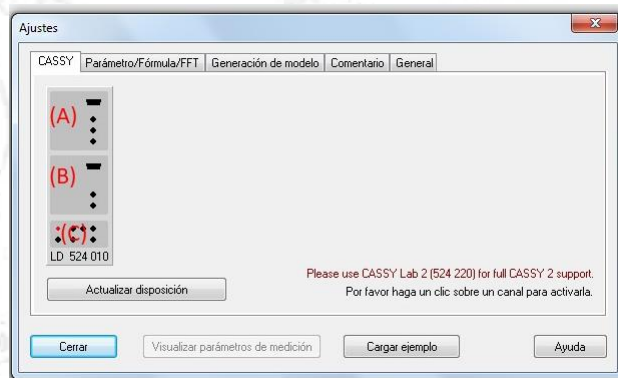

Figure 7. "Ajustes" of CASSY. Click on (A), (B) and (C)
- **First**, in the option CASSY, click in the three images of the left, (A), (B) and (C) of Figure 7 (UA1, UB1 and data). This will activate all the buttons that were not active in the menu (up-left of the screen)